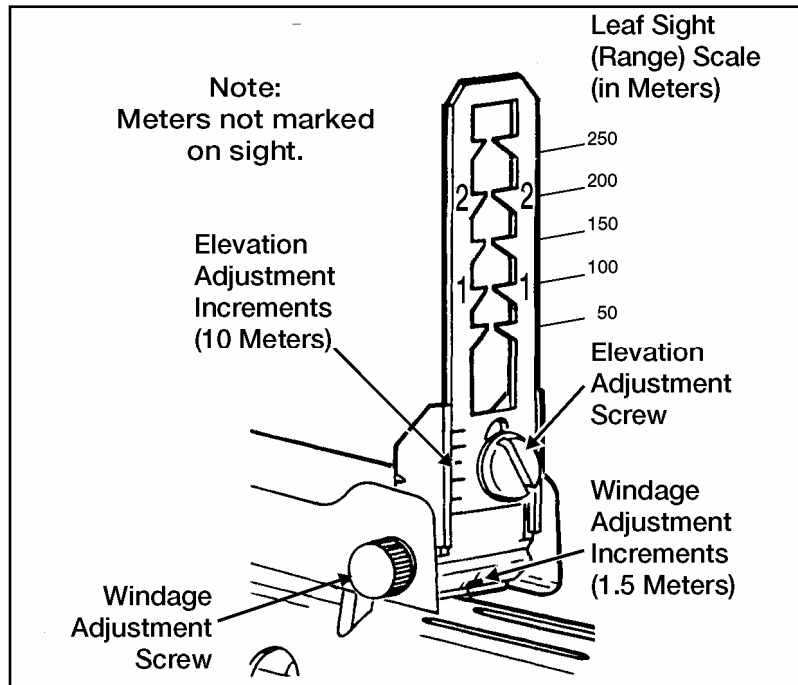

Figure 071-311-2130-4. Leaf sight
9. Adjust the leaf sight if necessary (figure071-311-2130- 4).